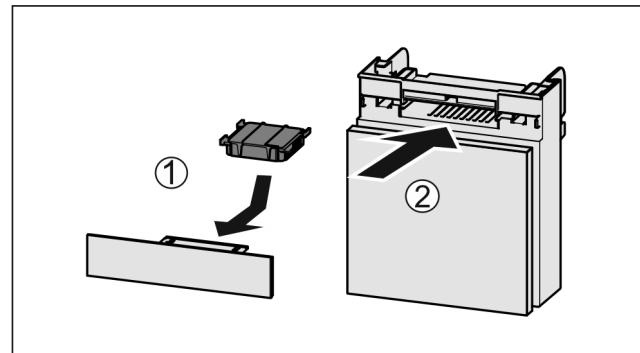

Fig. 81
- Insert the carbon filter as shown in the diagram Fig. 81 (1).
- Push the compartment in Fig. 81 (2).